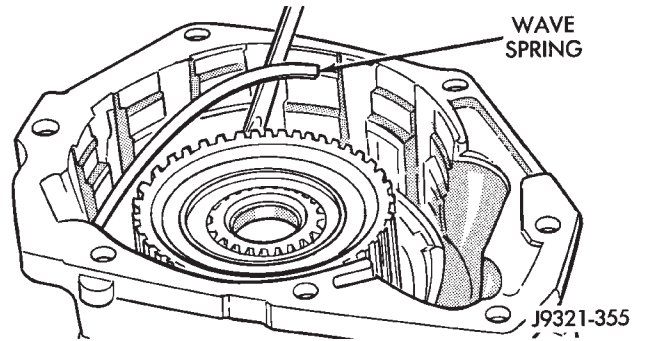

Fig. 245 Overdrive Clutch Wave Spring Installation
(2) Install wave spring on top of reaction ring (Fig. 245). **Reaction ring and wave ring both fit in same ring groove.** Use screwdriver to seat each ring securely in groove. Also ensure that the ends of the two rings are offset from each other.